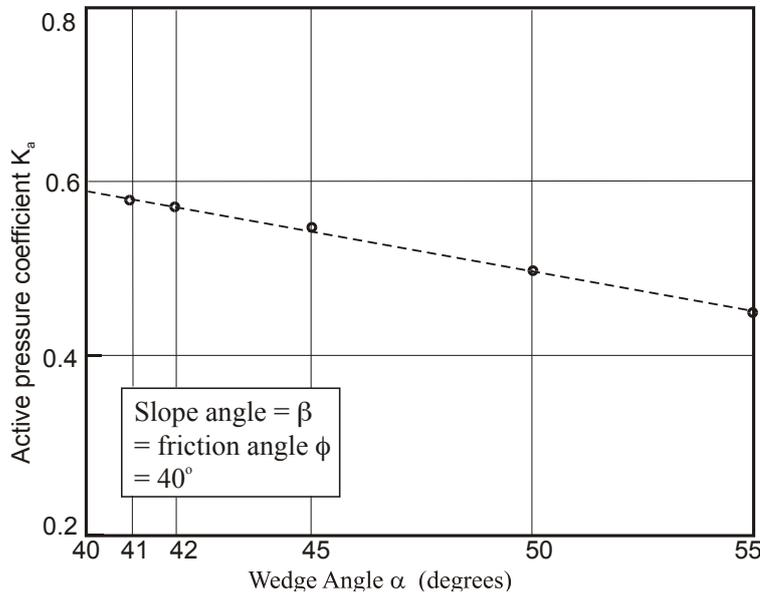

Figure 4. Determination of K_a by trial wedges for a dry cohesionless slope with $\beta = \phi = 40^\circ$.
Using these equations to solve for the force P by varying the wedge angle α produces the “surprising” result that P is maximum when the wedge angle becomes the same as the slope angle ie when $\alpha = \beta$. In other words the critical wedge is no longer a wedge but has become an infinite slab of constant depth parallel to the surface of the slope. Figure 4 shows the result for the simplest case, a dry cohesionless material, with an assumed ϕ angle of 40° .
Moving on from the simple case of a dry cohesionless material makes the solution a little more cumbersome. Analytical expressions, such as those in equations (10) to (13) are no longer available, but the results of trial wedges can be plotted as in Figure 4 above and the intercept of the line through the points with the vertical axis gives the required value of K_a . In all, four cases have been investigated: